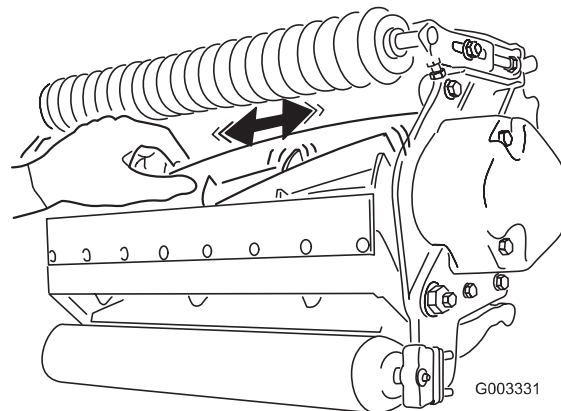

Figure 19
2. Using a rag or thickly padded glove, hold on to the reel blade and try to move the reel assembly side to side (Fig. 19).